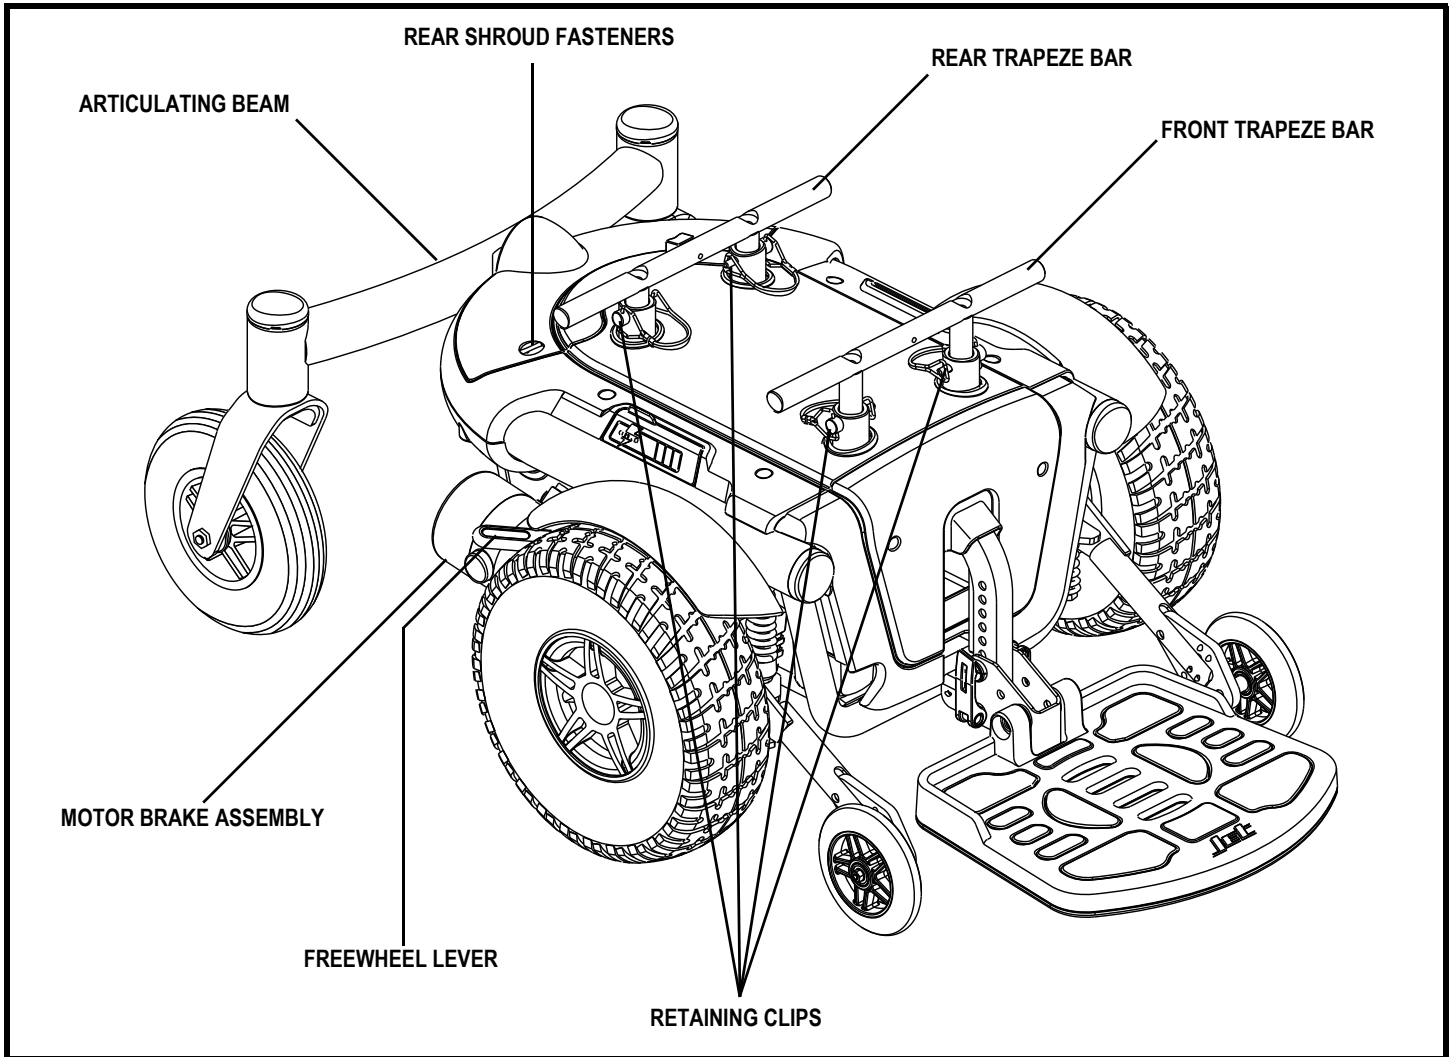

Figure 6. The Jet 3 Ultra Power Base
6. Turn the rear shroud fasteners one-quarter turn in any direction. **See figure 6.**
2. Loosen the rear shroud fasteners and remove the rear shroud. **See figure 6.**